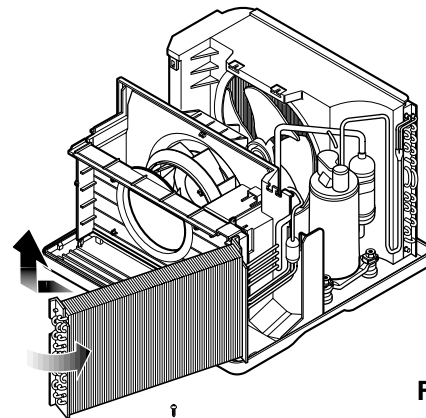

Figure 18
9. Move the evaporator forward and pulling it upward slightly. (See Figure 18)